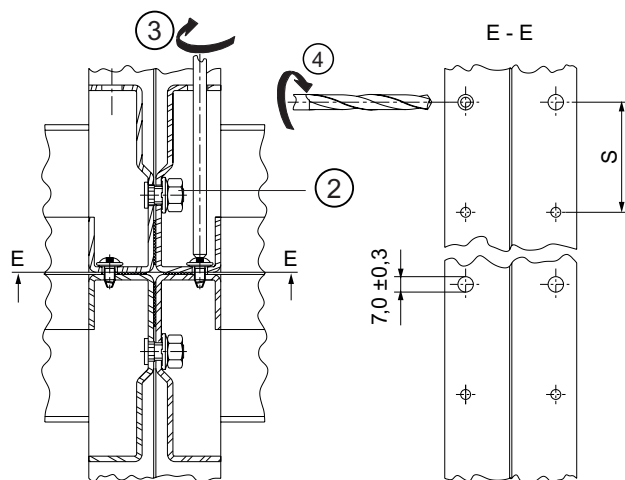

Fig. 8b
- 3 Figure 8b shows the frame connection in a cabinet row. The seal shown is necessary for IP54.
- 4 To join two cabinets of the same height and width back-to-back, enlarge 6 to 10 holes in the back wall of one of the frames from $\varnothing 4.5$ mm to $\varnothing 7.0 \pm 0.3$ (Figure 8b).
- 5 Place the frames back-to-back close to each other and bolt them together with sheet metal screws PM 5x10. See Figure 8b.
- Bolt the cross members together at the top and bottom using the lateral round holes as well as the center hole (from 900 mm cabinet widths) using M 8x15 draw-in bolts, 8 contact washers and M 8 nuts. See Figure 8b.